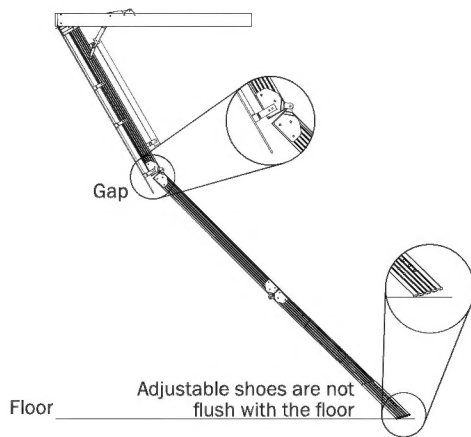

Figure 14
1. If the aluminum attic ladder looks like Figure 14 or 15, the attic ladder was not trimmed properly or the adjustable shoes were not installed properly. Double check your "A" & "B" measurements, the aluminum attic ladder is not safe to use.